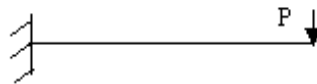

Figure 15:
- (b) Calculate the maximum deflection in a cantilever beam, subjected to concentrated load 'P' at its free end, by 1-term collocation method and 1-term Galerkin method. Compare the results. Shown in figure 15. [6+10]